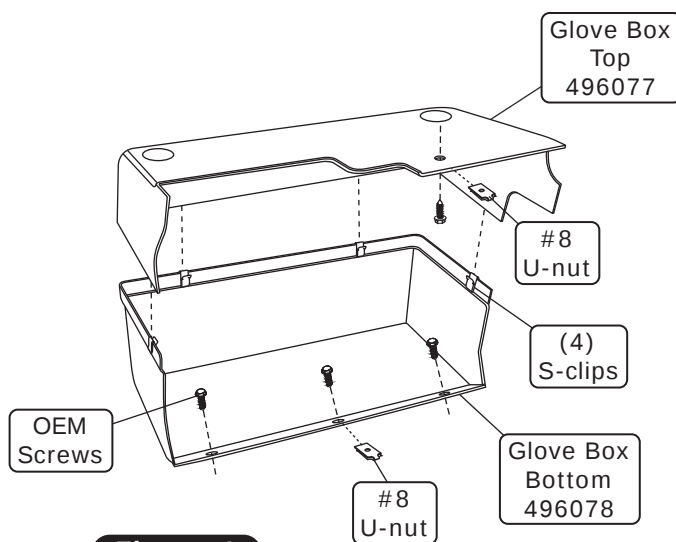

Figure 1
5. Install U-nuts onto the glove box top/bottom (See Figure 1, below).
6. Install the glove box bottom into the glove box compartment using OEM screws (See Figure 1, below).
7. Install the glove box top using (4) S-clips and OEM screws (See Figure 1, below).